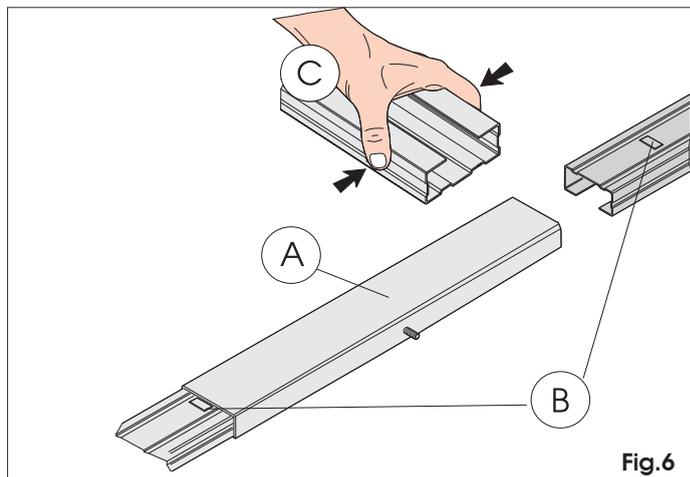

Fig.6
- 1) Assemble the two pieces of the sliding guide, fitting them in the central joint (Fig. 6 ref. A) until they come to a stop against the metal reference reliefs (Fig. 6 ref. B). To facilitate engaging the sliding guide, we advise you to insert it in the central joint, compressing it as shown in Fig. 6 ref. C. Do not use tools which could deform the guide or joint.